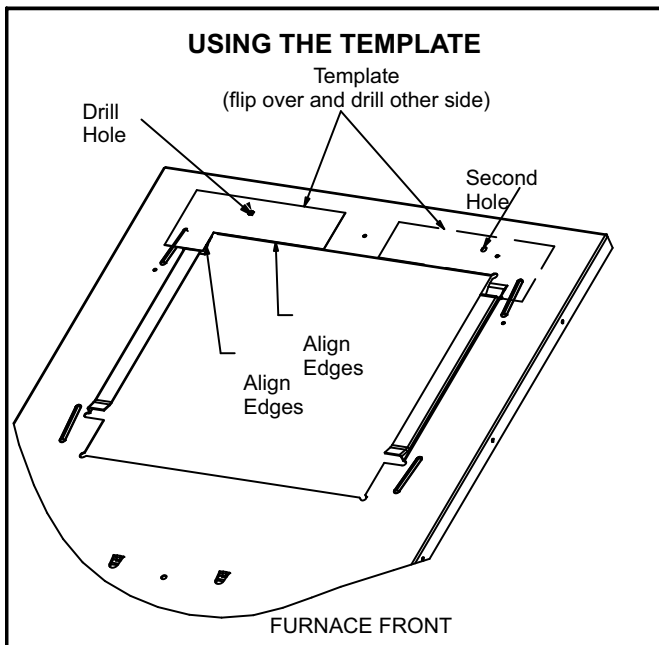

FIGURE 1
- 23 - Align template with the blower deck cutout as shown in figure 1. If necessary drill a 3/16" diameter clearance hole. Flip the template around and drill another hole of same size on other side of blower deck.